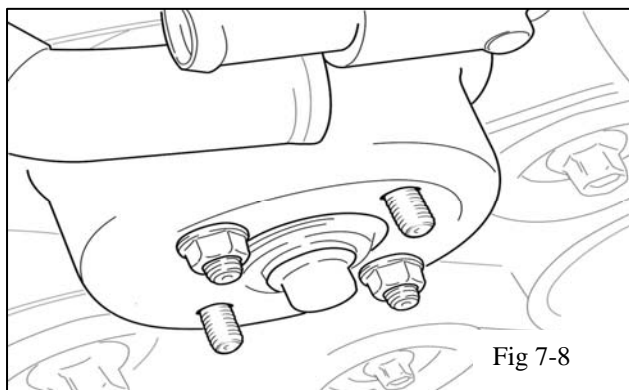

Fig 7-8
- (h) Reinstall two of the fan nuts (finger tight) so the fan pulley will not fall off (Fig 7-8).